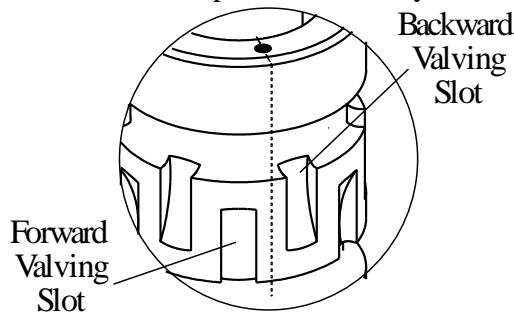

Fig.7
2. On the bottom of the shaft mark a Timing dot placed between forward and backward valving slots as shown on Figure 7.